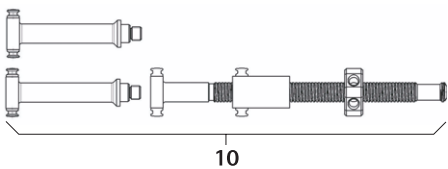

Fig. 15
- Mount distraction spindle 10, see Fig. 15.